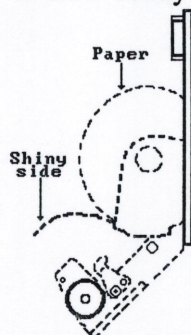
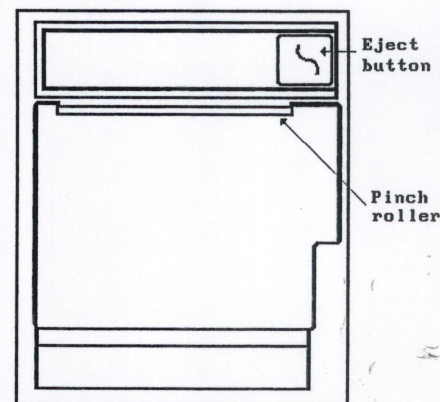

Figure 1
Figure 2
The paper is located inside the recorder (see Figure 1). When the door at the front of the printer is opened, it tilts forward revealing a curved paper tray. The paper holder is located at the center of the tray. Paper is loaded between the two round tabs of the paper holder. The sensitive (shiny) side of the paper must be facing the printhead (see Figure 1). When the door is closed, the paper is held against the thermal printhead by a pinch roller (see Figure 2).
1. Open the door at the front of the printer by pushing the paper eject button (see Figure 2). The door should tilt open. If the printer's door does not open completely, pull it towards you until it is completely open.
3. Place a new paper roll between the two round tabs of the paper holder so that when you pull the paper towards the door, the sensitive (shiny) side of the paper is facing up (see Figure 1).
5. Align the paper with the pinch roller attached to the printer door (see Figure 2).
6. While holding the paper against the pinch roller, close the printer door (see Figure 2).